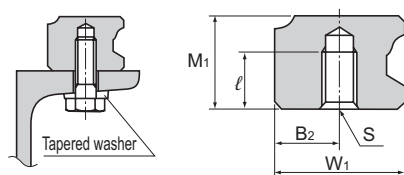

Fig. 2
(1) As shown in Fig. 2, a tapered washer is also available that allows GSR to be mounted on a steel flange.
(2) For model number coding, see **A1-298**.